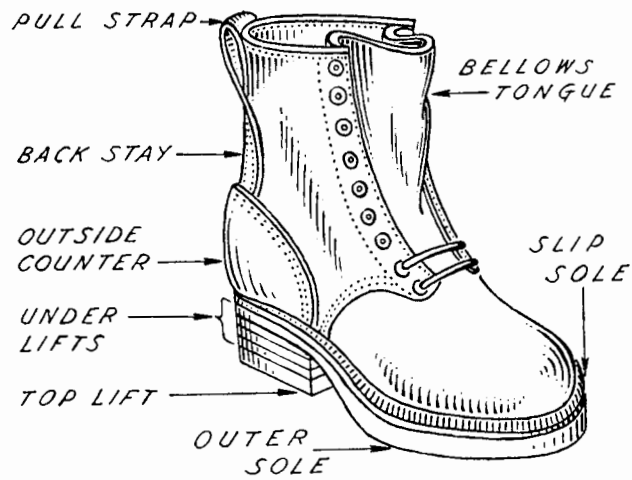

Fig. 33. Heavy-duty work shoe.
**Work Shoes and Boots.** The heavy duty work shoe is characterized by double soles and the use of counters, box toes, and heavy leather to give greater strength and durability to the uppers (Fig. 33). A bellows tongue is often employed. Like the work shoe, the side of the boot is extended above the ankle. A few of the many styles of boots are illustrated in Figures 34–36. Note that the lineman's boot is reinforced at the ball of the foot.